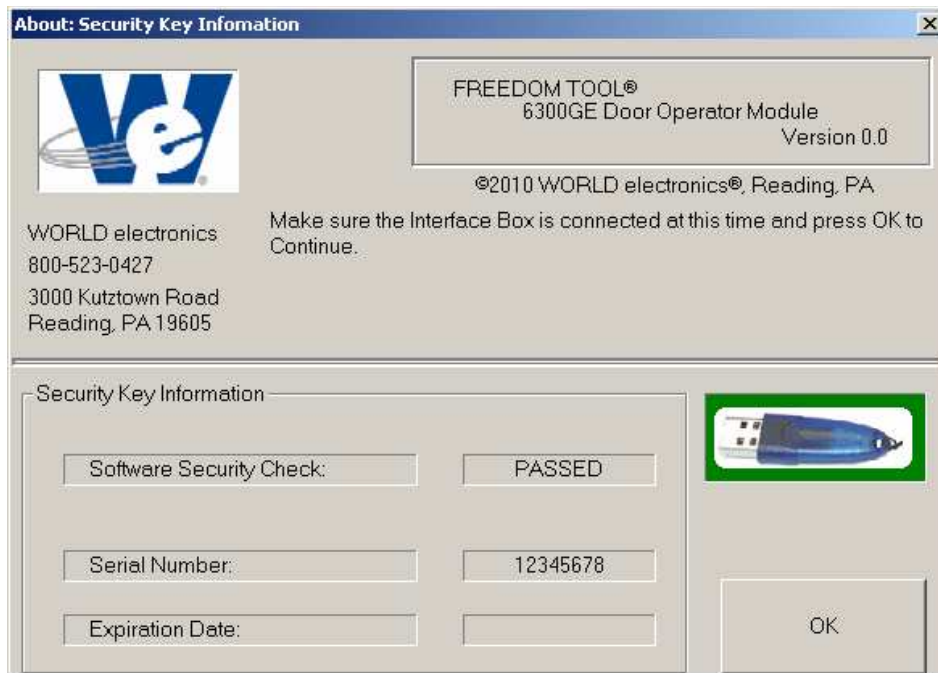

Figure 21
2. Upon selecting the OK pushbutton with a Serial Port pushbutton pressed, the **About: Security Key Information** window will be displayed as in Figure 21. A successful access to the security key is indicated by a green box surrounding the picture of the security key device along with the designation **PASSED** located in the field **Software Security Check:**. Other information contained within this window is: contact information for contacting WORLD electronics technical support, revision information on the current software, and a final instruction to connect the interface box to the door operator. In order to continue using the 6300GE Software Module, position the cursor over the **OK** pushbutton and single click with the pointing device button. When **OK** is selected, the main window of the 6300GE Software Module will open.